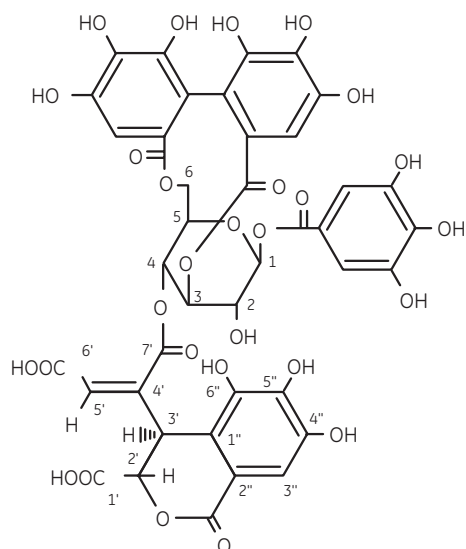

Fig A7.2. Structure of free acid form of repandusinic acid A.
Phyllanthus niruri is a widespread tropical plant that has been used as a natural medicine against edema and jaundice for many years. Aqueous extracts of this plant contain an inhibitor of HIV-1 reverse transcriptase (RT), which has been identified as repandusinic acid A monosodium salt (RA), a small tannin-like molecule (1). Purification results of RA from *P. niruri* using a purification scheme including Sephadex LH-20 are found in *Sephadex LH-20 data file*, 18110722. The structure of the free acid form of repandusinic acid A is shown in Figure A7.2.